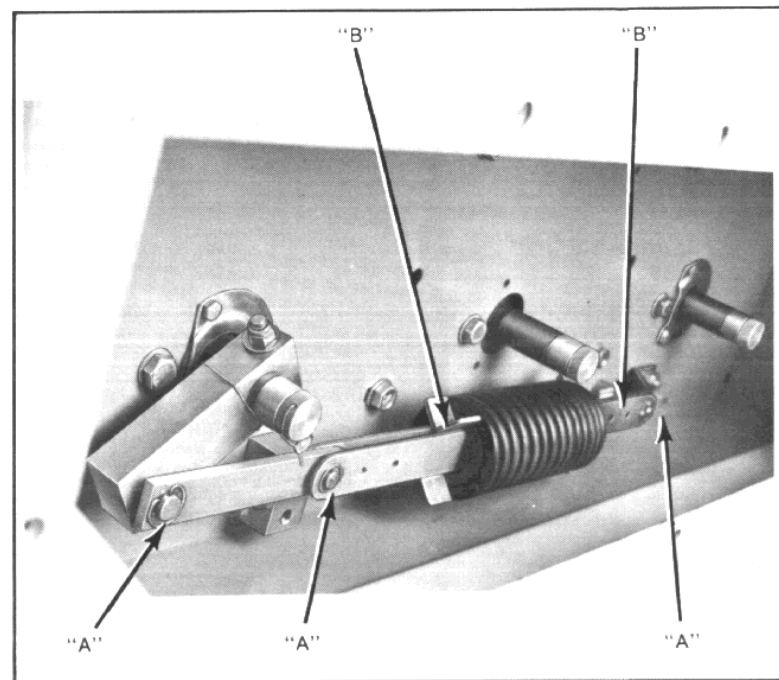

Figure 9
3. The opening spring should be lubricated at point A with oil and point B with grease. (Figure 9)